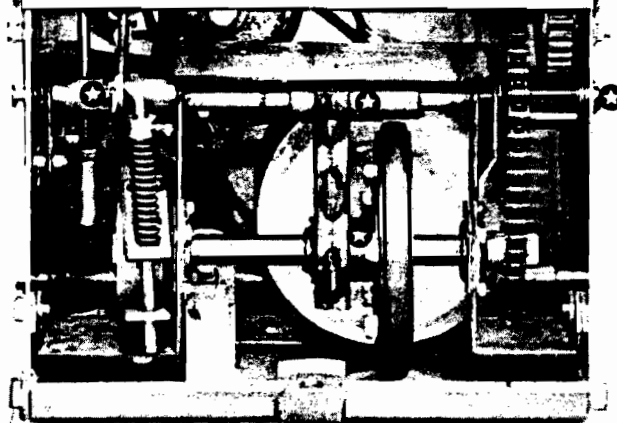

Figure 1
b. Grease the bell crank, sliding fork, pinion and sprocket, sliding hub, and the L. H. axle every 25 hours of operation or sooner under extreme conditions through the zerk fittings shown in Figure 1.